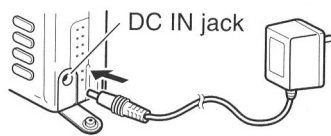

Figure 4.1
2. Insert the DC plug from the charger into the DC IN jack on the Handheld radio remote (Figure 4.1).